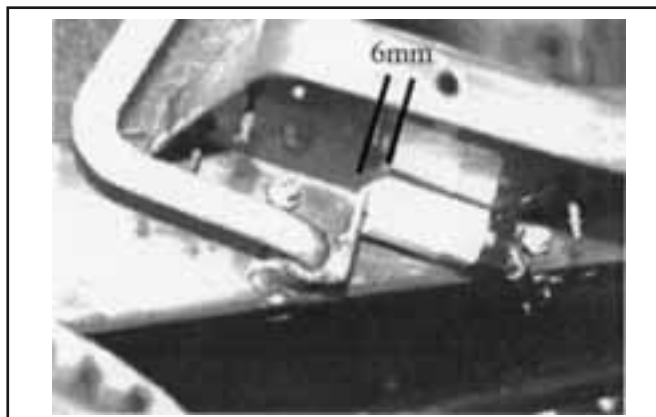

Fig. 29 Clutch brake safety switch
2. Loosen the two safety switch retaining screws and slide the safety switch towards the rear of the mower. *Fig. 29*